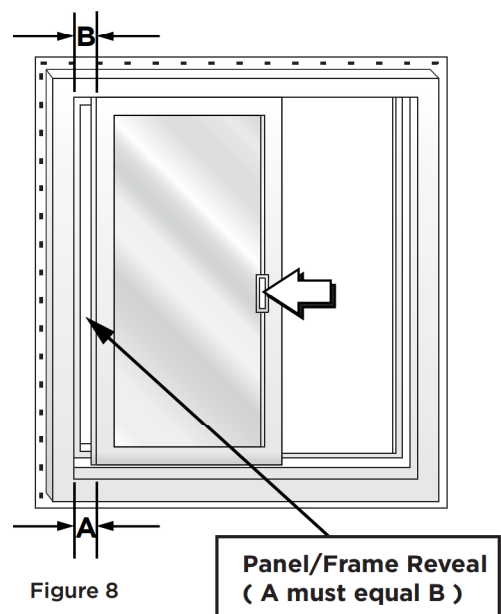

Figure 8
2. Slide the panel all the way toward the closed position until it meets the edge of the door frame jamb. Check the reveal between the panel and frame to be sure the gap is even along the entire vertical edge of the panel (figure 8).